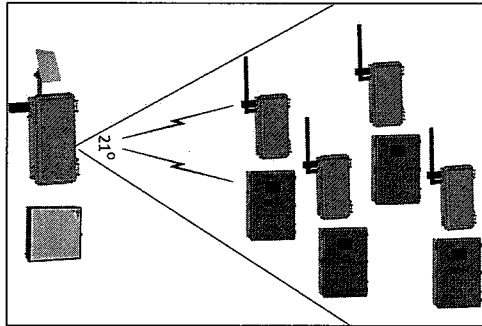

Figure 14: Placing the RLINKs Using a Uni-directional Antenna
- Choosing to install a uni-directional antenna entails changes in the installation. Refer to Figure 14.
- Rotem's uni-directional antenna has a 21° beam-angle. When using other uni-directional antenna, refer to the manufacturers beam width specification (Figure 14).